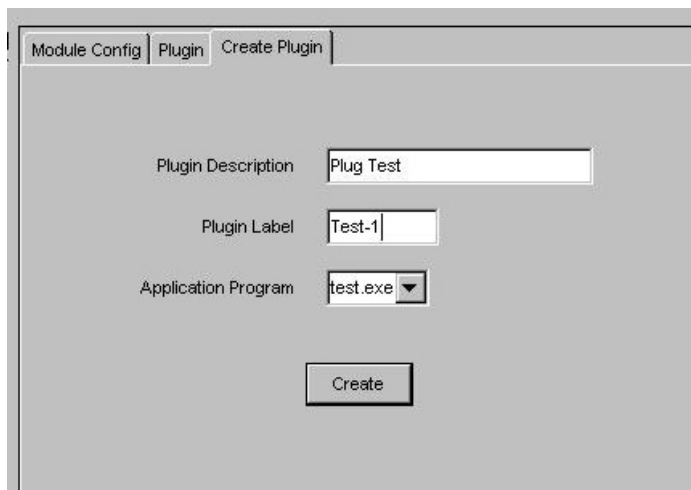

Figure 4-21: Naming and Associating a Plug-in file
**Step 4.** Click *Create* to complete the process. (See *Figure 4-21*)